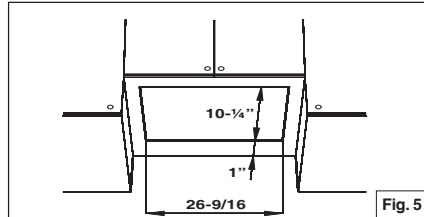

Fig.5
2. Cut a hole in the bottom of the cabinet, using the dimensions shown (Fig.5).